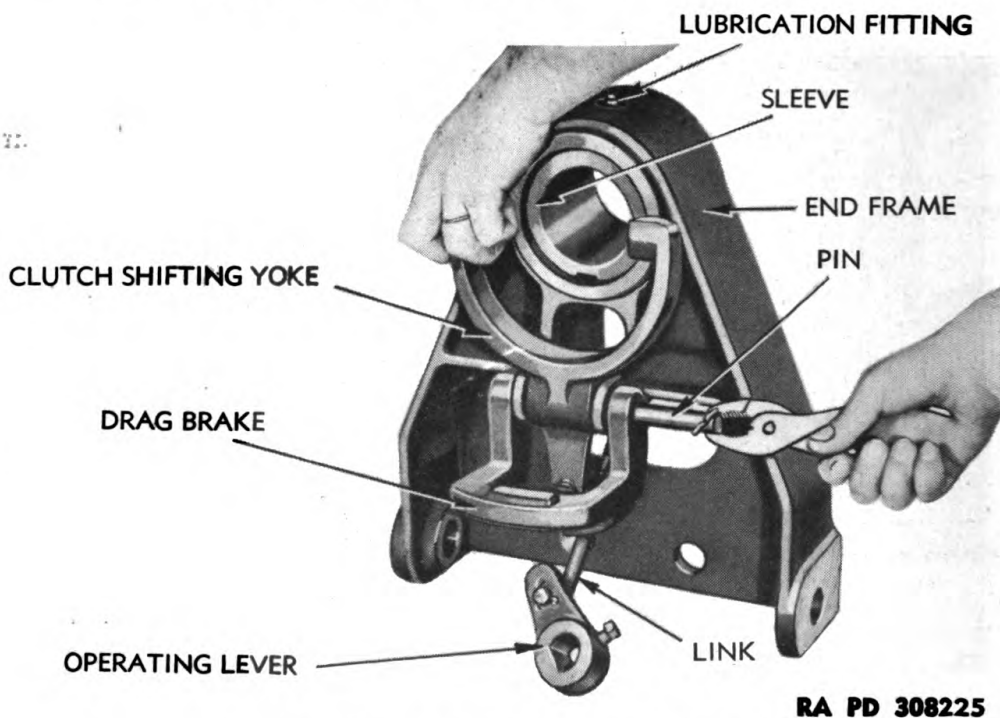
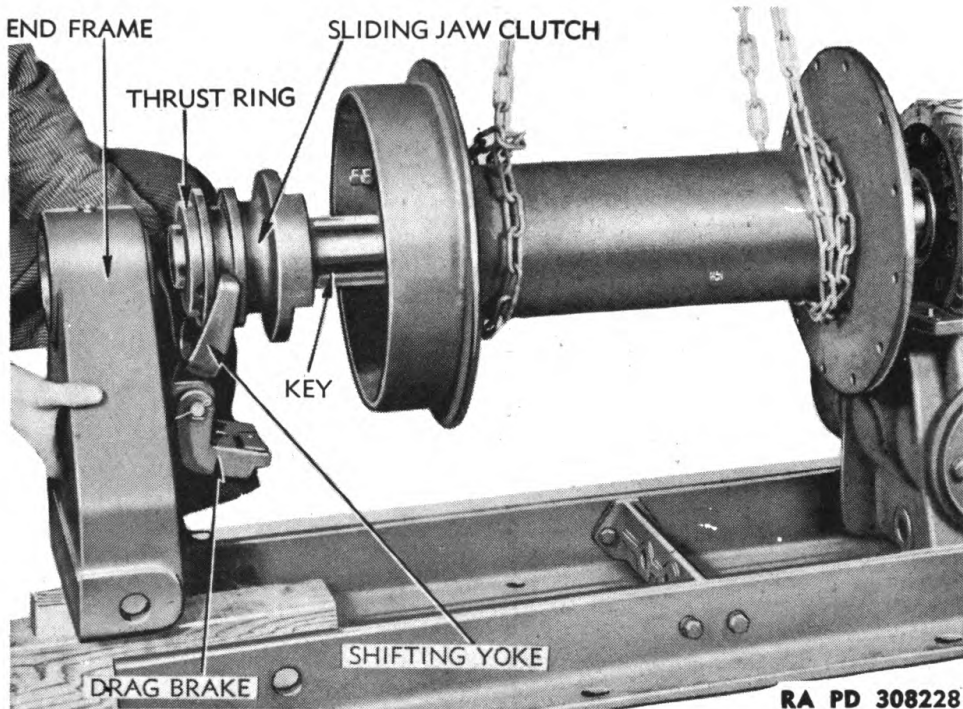

Figure 123 — Removing Clutch Yoke Pin
Figure 126 – Installing End Frame Assembly on Drum
(1) Remove cap screw and washer from clutch end of drum shaft. Slide end frame, outer thrust ring, and sliding jaw clutch towards end of shaft far enough for clutch yoke to slip down out of clutch when end frame is removed from shaft. Remove end frame with clutch shifting yoke attached (fig. 126). Remove outer thrust ring and jaw clutch.
j. Disassemble End Frame (fig. 123). Pull cotter pin from one end of clutch shifting yoke pin, pull pin from clutch yoke and end frame, and remove yoke. Pull cotter pin and remove operating lever from yoke link. Remove lubricating tube and nipple from sleeve in end frame through hole in top of end frame and slip sleeve out of end frame. Tap dowel pin out of end frame.
(6) Install the sliding jaw clutch onto shaft with jaws toward drum and make sure clutch slides freely over keys. Slip outer thrust ring on shaft with notches engaging ends of keys (fig. 126).
j. Assemble and Install End Frame on Drum Shaft (fig. 123). Tap dowel into lower side of hole in end frame. Insert sleeve into end frame with slot in sleeve registering with dowel. Install nipple for lubricating fitting in hole in upper side of sleeve. Install shifting yoke and drag brake on end frame with clutch yoke pin. Secure pin with cotter pin. Install short operating lever and link on shifting yoke; secure with cotter pins. Slide thrust ring and jaw clutch close to end of shaft. Install end frame assembly onto shaft, engaging shifting yoke in groove of sliding clutch as end frame is raised to slip onto end of shaft (fig. 126).